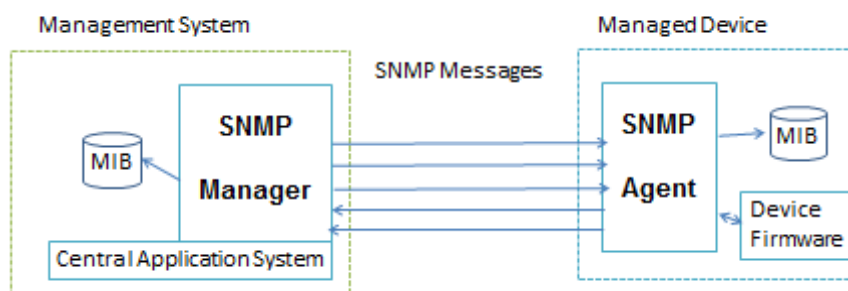

Figure 2: SNMP Model
**Management System:** The technology used to manage a network. Usually Network Management Station (NMS) is referring to the management of networking specific devices such as routers, or in NTCIP devices in the field. In the context of the NTCIP, NMS refers to all devices including end systems that are present on the network or inter network. Figure 2 introduces an SNMP model used in the NTCIP C2F communications.